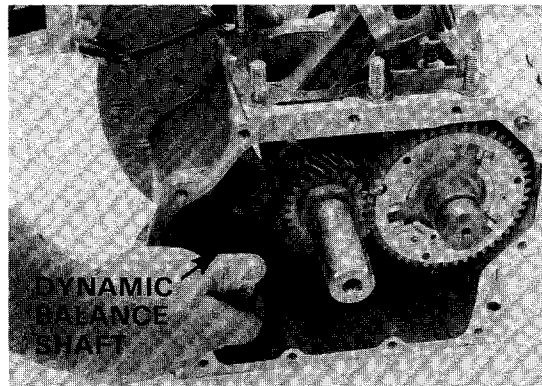

Figure 6-30
3. Remove dynamic balance shaft (89) by pulling it out of crankcase (**Figure 6-30**).